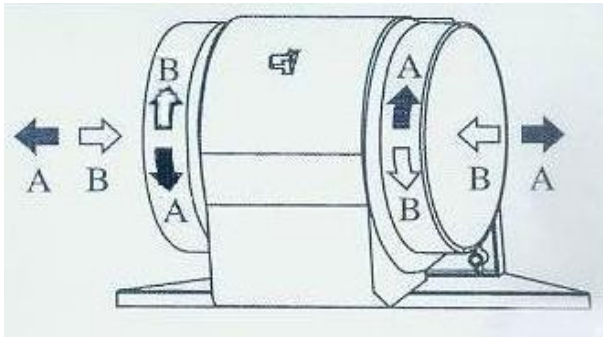

Fig.6
- The active carbon filters purify the air that is replaced in the environment. The filters are not washable or reuseable and must be replaced at maximum every four months. The saturation of the active carbon filter depends on the frequency of use of the appliance, also by the type of cooking and the regularity of cleaning on the anti-grease filters. (Fig 6) To remove the charcoal filters place our hand on one filter at a time and turn it toward the front part. The charcoal filter can now be removed. Always ensure to replace both filters at the same time.